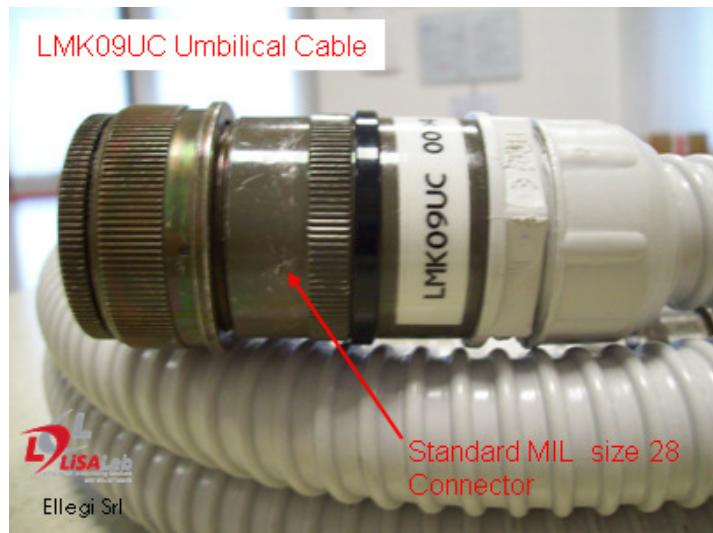

Figure 3: LISAMOBILE LMUC umbilical cable and one of its connectors.
**2. Umbilical Cable LMUC:** the umbilical cable LMUC to connects the power base PBLM to the linear positioner PLLM. At each end of the umbilical cable there is a 22 pins standard MIL size 28 connector; the side of the umbilical cable that has to be connected to the power base has got a socket whilst the side that has to be connected to the linear positioner has a plug (Figure 3).